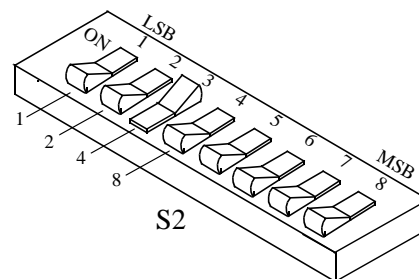
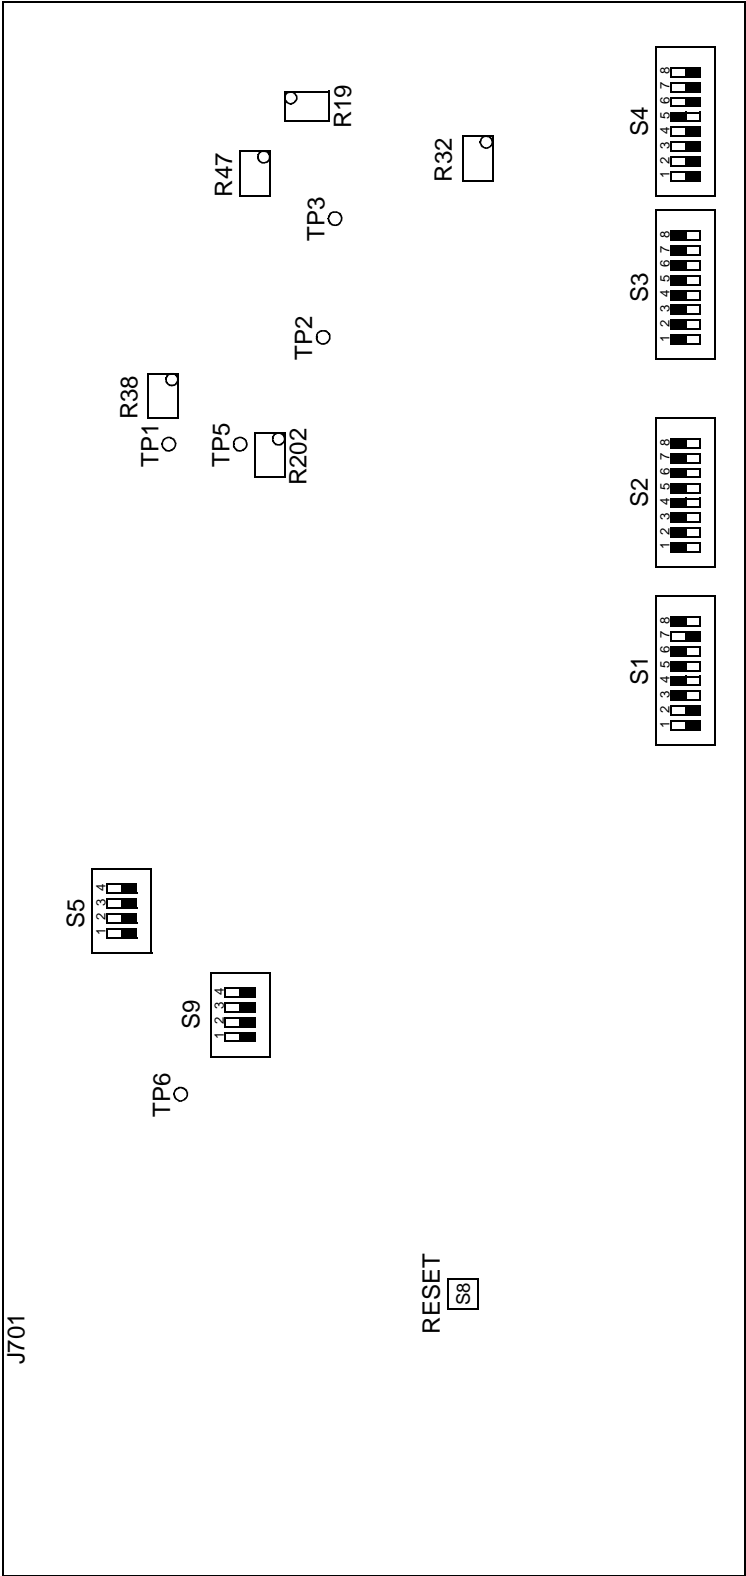

Figure 1-20 MLM S2 TRANSMIT ENABLE
Figure 1-23 MLM ALIGNMENT POINTS DIAGRAM
2. **On the MLM** drawer connect a Transmission Test Set to TP2 and adjust R202 for a meter reading of -12 dBm. (See Figure 1-23.)
3. **In the MLM** drawers set S2 as shown in Figure 1-20 and reset the MLM by pressing S8 momentarily. This enables the transmitter.
6. **In the MLM** drawers set S2 as shown in Figure 1-20 and reset the MLM by pressing S8 momentarily. This enables the transmitter. (See Figure 1-23.)